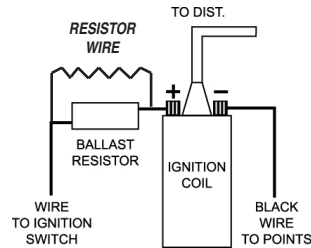

FIGURE 2
3. For installations that do not use a primary ballast resistor, connect the Ignitor red wire to the positive (+) side of the ignition coil. (See Figure 2)